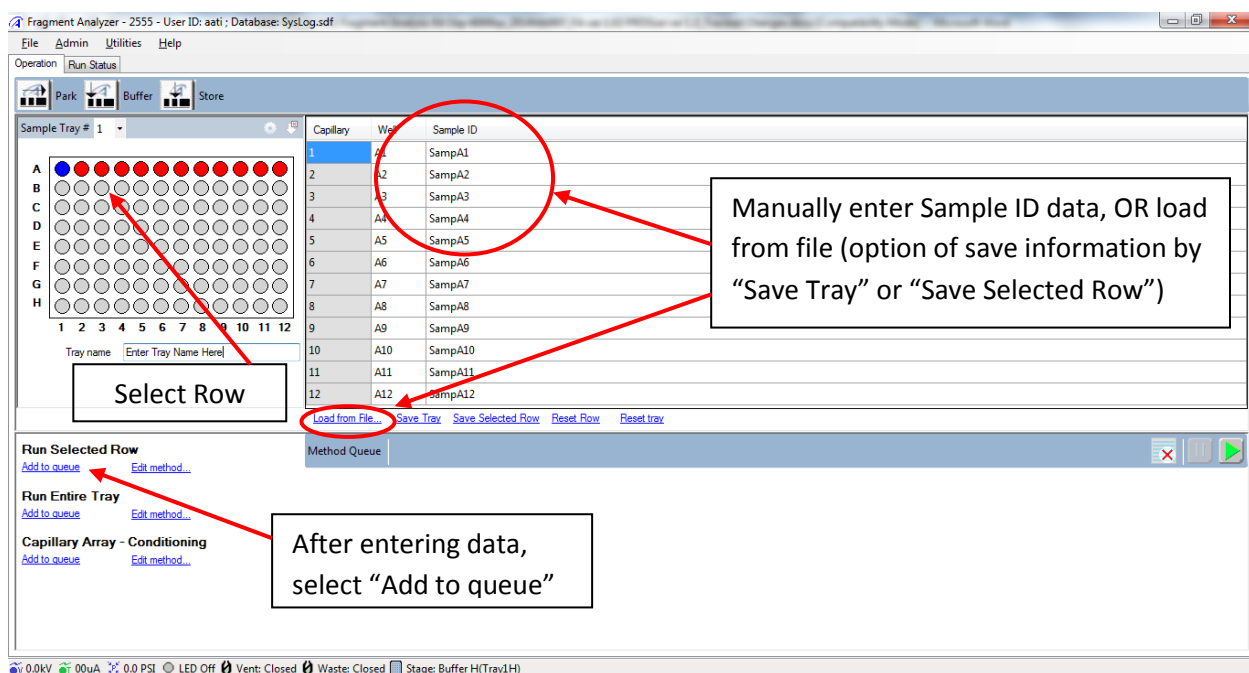

Figure 3. Main Screen showing selection of sample row and entering sample information
1. To set up an experiment, from the Main Menu of the *Fragment Analyzer™* instrument control software, select the **Operation** tab (Figure 3). Select the sample tray location to be analyzed (1, 2, or 3) by left clicking the **Sample Tray #** dropdown or by clicking the appropriate sample plate tab (alternate plate view) and choosing the appropriate location. 96-Capillary Systems: Note that Sample 3 is typically assigned to the Capillary Storage Solution.
2. Left click a well of the desired sample plate row with the mouse. The selected row will be highlighted in the plate map (e.g., Row A in Figure 3). Enter the sample name if desired into the respective **Sample ID** cell by left clicking the cell and typing in the name. Alternatively, sample information can be imported from .txt or .csv file by selecting the **Load from File...** option.